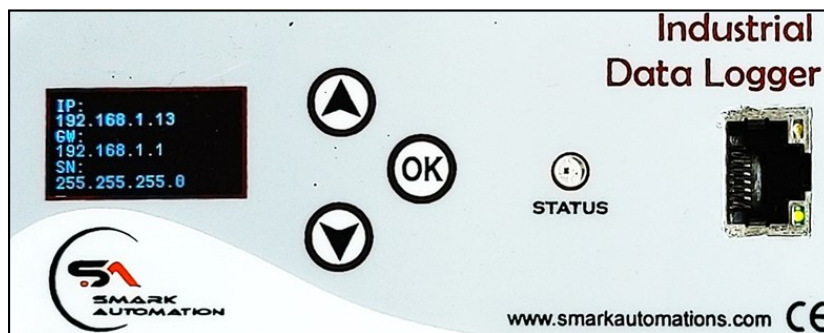

Figure 21: Network Configuration Display
To view the IP address and other network details, navigate to the "Show IP" option from the navigation menu. Pressing OK will display the IP address(IP), Gateway (GW), and Subnet (SN) as shown in Fig 21. The IP address displayed here is used to access the local web server. To access the web server, refer to Section 4.1 of the document.